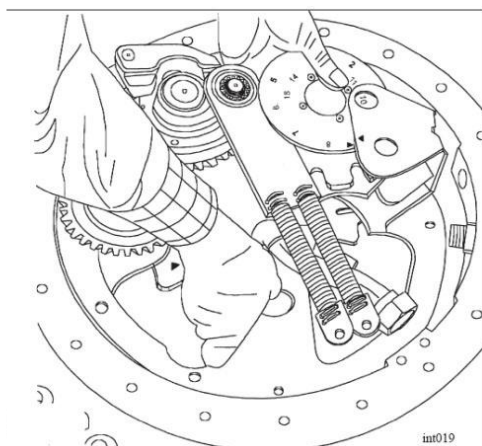

Figure 14 Pull out the spring energy system
- 5) Pull out the spring energy system in upward direction (Figure 14).